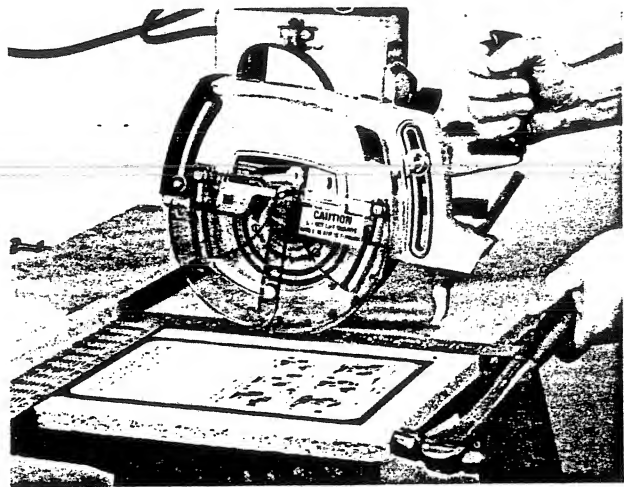

Fig. A4
4. Since the nuts which hold the table to the frame are not tight, you can shift the entire table in relation to the arm by tapping the table corners with your hand or lightly with a hammer (Fig. A4).
- c.) After all (4) nuts are snug, take up on the first again a little more and repeat on all the other nuts.